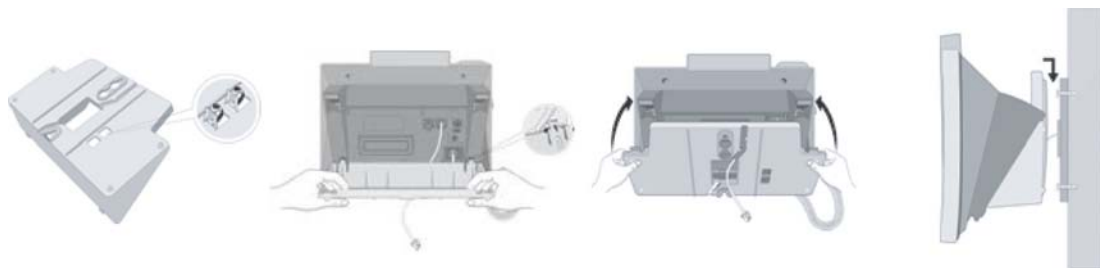

Figure 4.7-6 LIP-7000 Wall Mount Installation
The LIP-24D/DH or LIP 7000 Phones can be mounted on the wall using the appropriate Wall Mount Kit. The Wall Mount Kit is installed as described below and shown in Figure 4.7-6.
- Using the Wall Bracket, mark and drill two (2) 7 mm holes for the plastic wall anchors provided.
- Insert the two (2) anchors into the holes and insert and tighten the 2 screws leaving about 6 mm ($\frac{1}{4}$ -inch) exposed. Refer to Figure 4.7-6.
- Insert the Wall Mount handset hook to prevent the handset from slipping when wall mounted. For the LIP-7000 series, the Handset hook is molded as part of the Wall Mount bracket as shown in Figure 4.7-6.